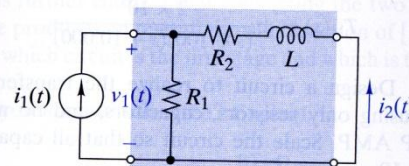

FIGURE P11-28
- 11-28 The circuit in Figure P11-28 is in the steady state with $i_1(t) = 10 \cos 500t$ mA, $R_1 = 100 \Omega$, $R_2 = 400 \Omega$, and $L = 100$ mH. Find $i_{2ss}(t)$. Repeat for $i_1(t) = 10 \cos 5000t$ mA.